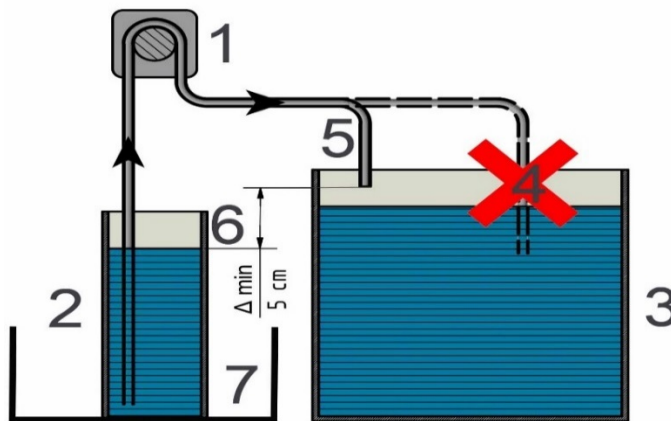

Fig. 1: Safety instructions:
The dosing pumps (1) are self-priming and have to be installed acc. to Fig. 1. This is the only way to prevent total emptying of the container (2). It is recommended to keep the tubes as short as possible (water height max. 2 m = 0.2 bar), however, the tube on the suction side has to reach the bottom of the container (2). To prevent back flow, take care that the dosing tube does not hang in the aquarium water (4). The water level in the container (6) has always to be below the end of the dosing tube (5). The water level in the filter / aquarium (3) is not important when respecting these instructions.